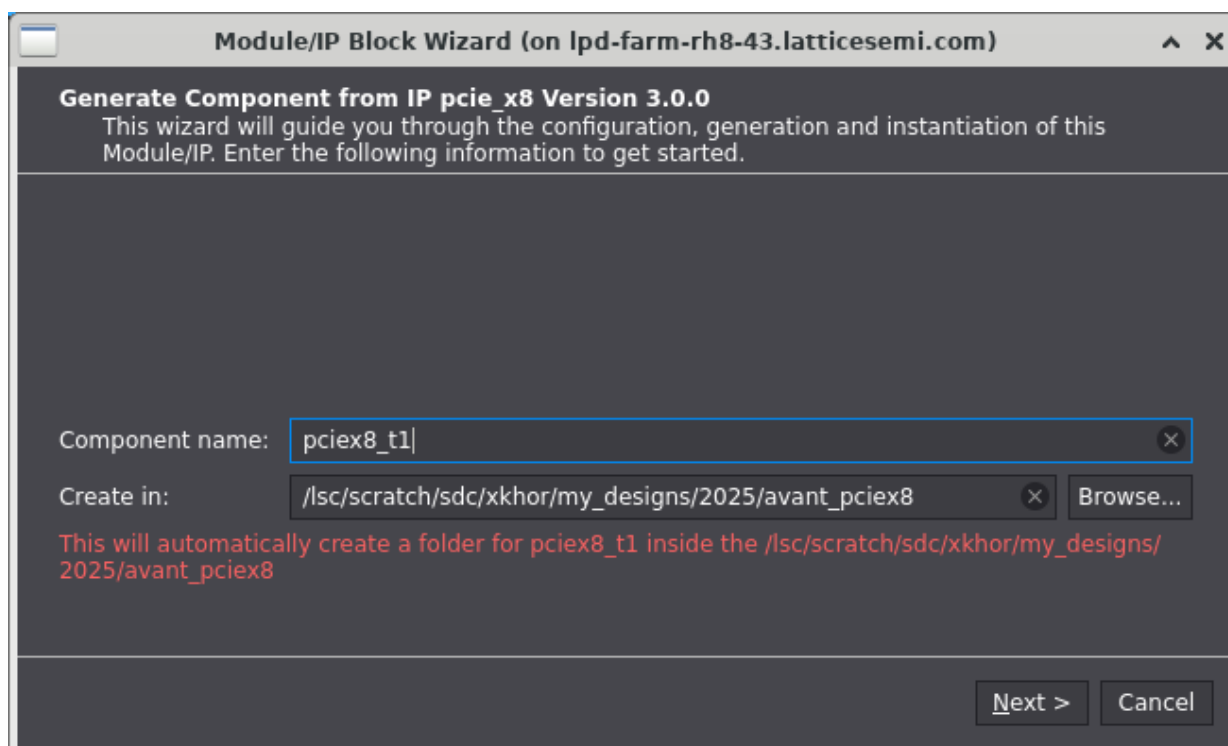

Figure 7.1. Module/IP Block Wizard
2. In the **IP Catalog** tab, double-click **PCIe_X8** under the **IP, Connectivity** category. The **Module/IP Block Wizard** opens as shown in Figure 7.1. Enter values in the **Component name** and the **Create in** fields and click **Next**.
5. Click **Finish**. All the generated files are placed under the directory paths in the **Create in** and the **Component name** fields shown in Figure 7.1.